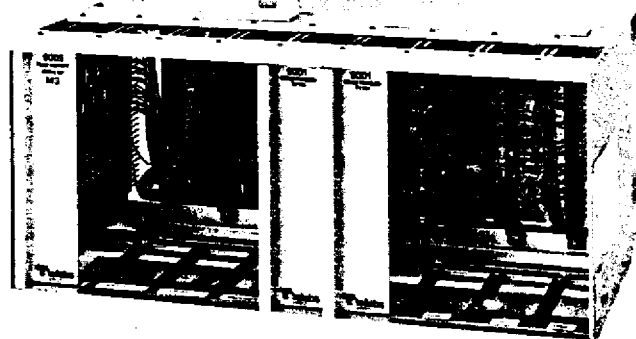

figure 1. 273AR Power Failure Transfer Assembly
1.01 The Tellabs 273AR Power Failure Transfer Assembly (figure 1) is designed for use in power-failure-transfer applications for PBX's not equipped with battery backup. This package includes the following components: from one to five 9001 Relay Modules, from one to four 9005M3 Loop Current Detector Modules, one 8001 24/48Vdc Power Supply, and one 273AR Assembly. When fully equipped with the maximum numbers of modules, the 273AR Assembly can serve 20 circuits in power-failure-transfer applications.